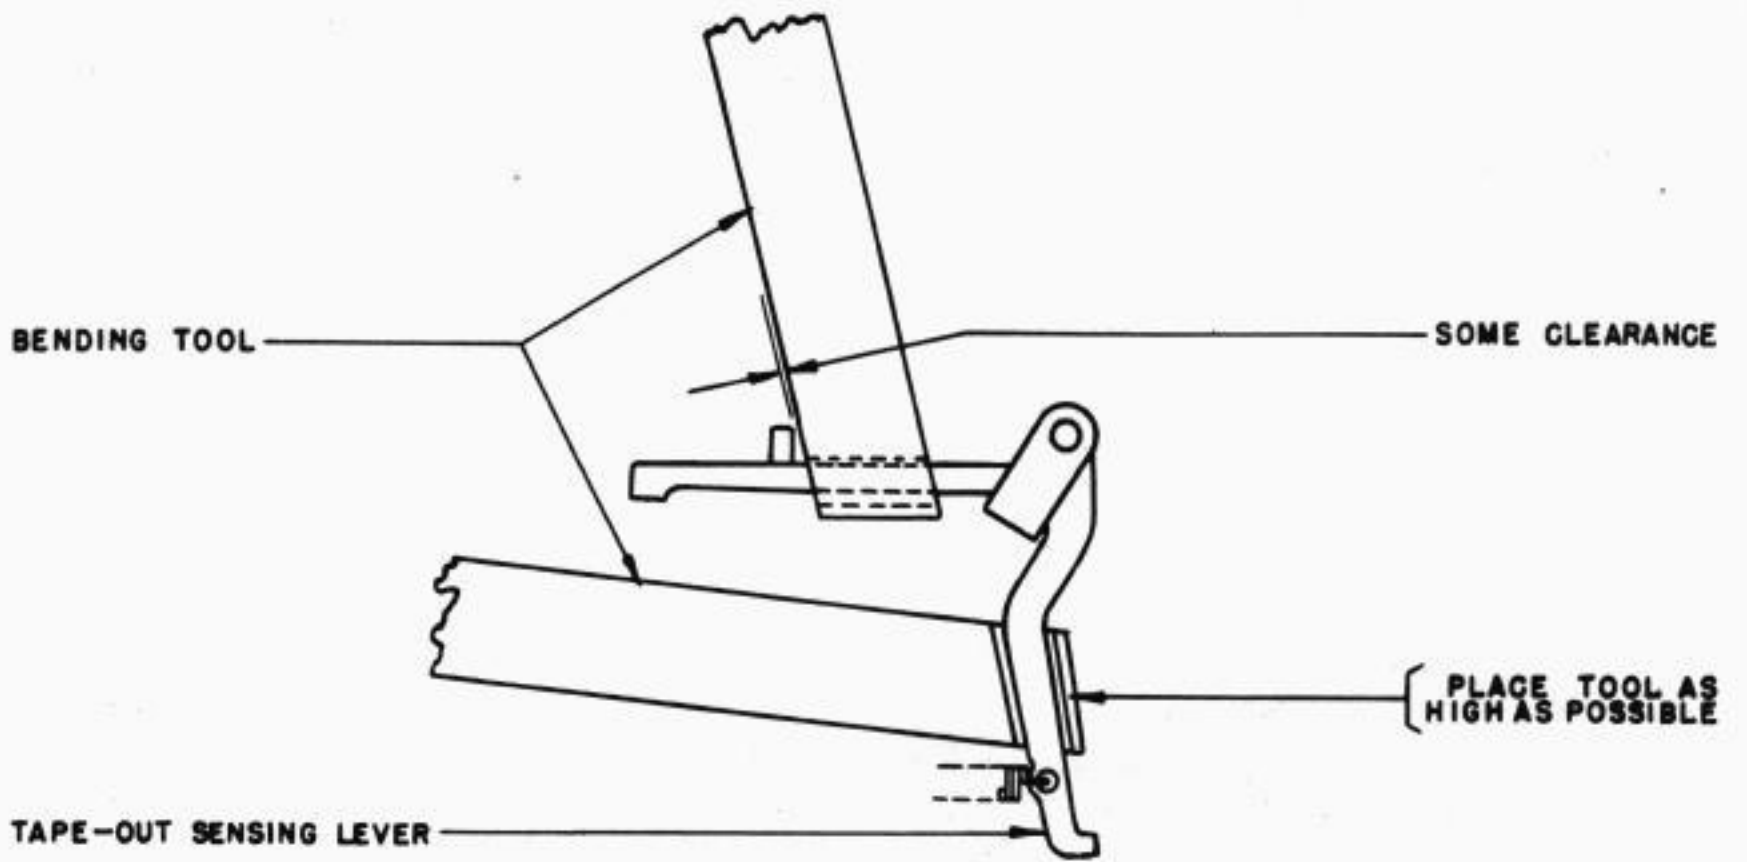

FIGURE 1
- (b) With the bending tools placed as shown in Figure 1, bend the horizontal leg of the tape-out sensing lever so that the top of its sensing pin is flush, within .005", with the top of the adjacent selector lever pin. Avoid damaging the pin with the bending tool.